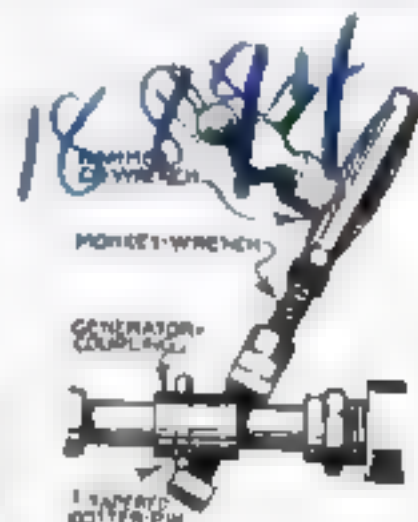

Fig. 8. Removing pins.
**T**APERED cotter-pins in pump-shafts, generator couplings, and in the engine of an automobile are frequently located where a hammer or other tool cannot be placed so as to permit of driving them from below. Many times the mechanic will drive them from above and they will fall into the engine pan. Figure 8 shows a quicker method of removing such pins.